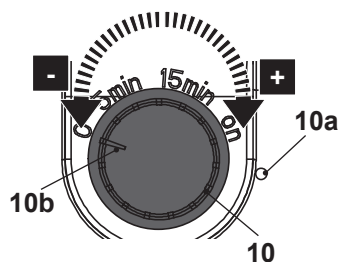

Fig. 11
The On/Off switch (10) is combined with a timer function. Turn it to make the indicator line (10b) align with the required function marking (Fig. 11).